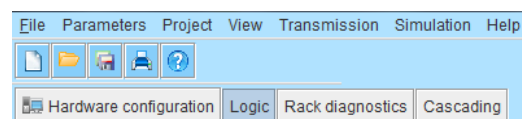

Fig. 31-2
- Use the "Cascading" button to open the configuration menu. (Fig. 31-2)